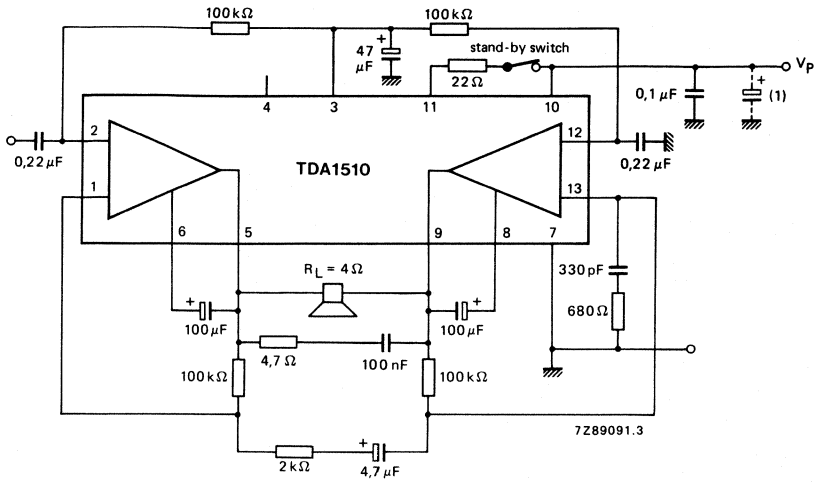

Fig. 3 Test and application circuit bridge tied load (BTL).
4. The input impedance in the test circuit (Fig. 3) is typ. 100 k $\Omega$ .